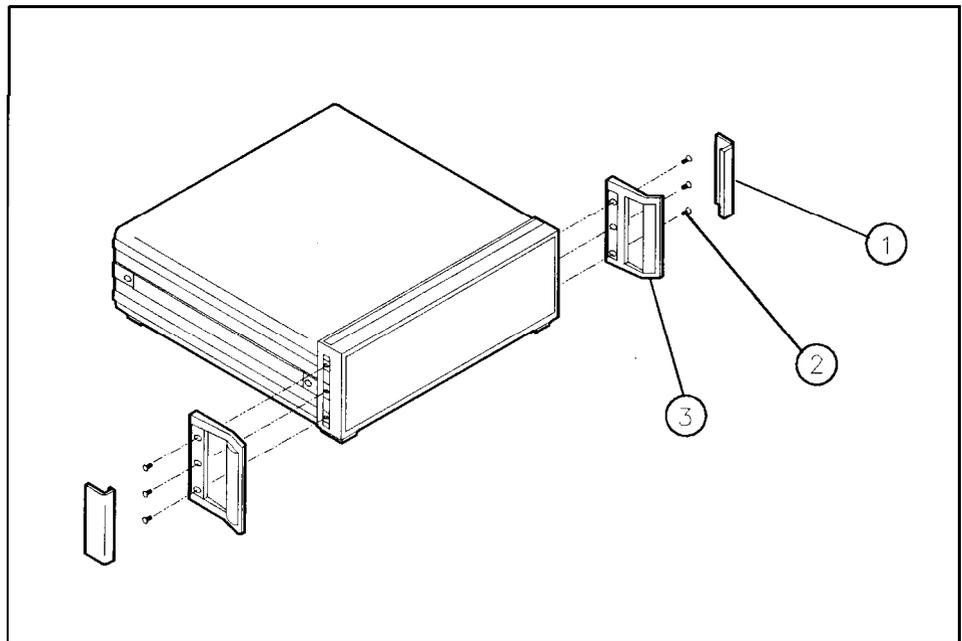

Figure 2-8. Removing the Handles and Trim
3. Remove the front-handle trim from each side of the RF and IF-Display sections. See callout 1 in Figure 2-8.
4. Remove the three screws securing each handle, and remove the handles. See callouts 2 and 3 in Figure 2-8.